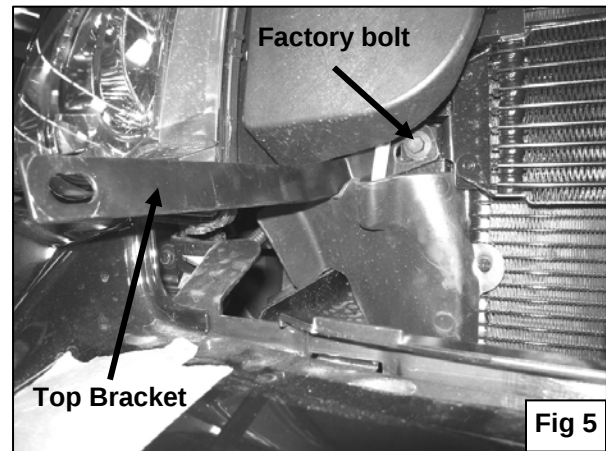

Fig 5
7. With the 90° degrees bend towards the rear, attach Top Bracket to previously removed bolt location using the factory bolt. **NOTE:** Place Top Bracket behind radiator metal lines. Do not tighten at this time **(Figure 5)**.